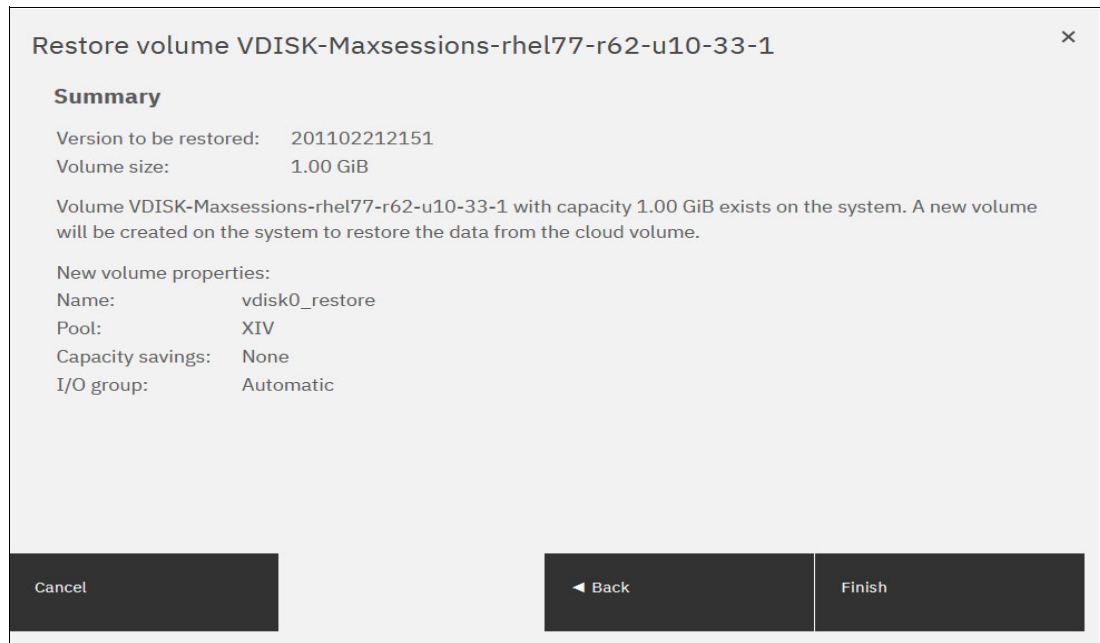

Figure 10-81 Restoring a snapshot summary
6. A Summary window is displayed so you can review the restoration settings, as shown in Figure 10-81 on page 727. Click **Finish**. The system creates a volume or overwrites the selected volume. The more recent snapshots (later versions) of the volume are deleted from the cloud.